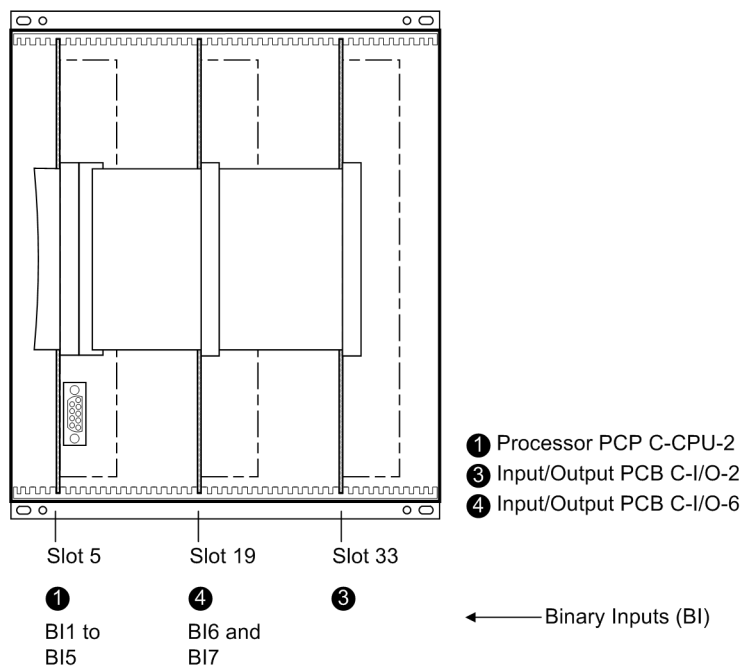
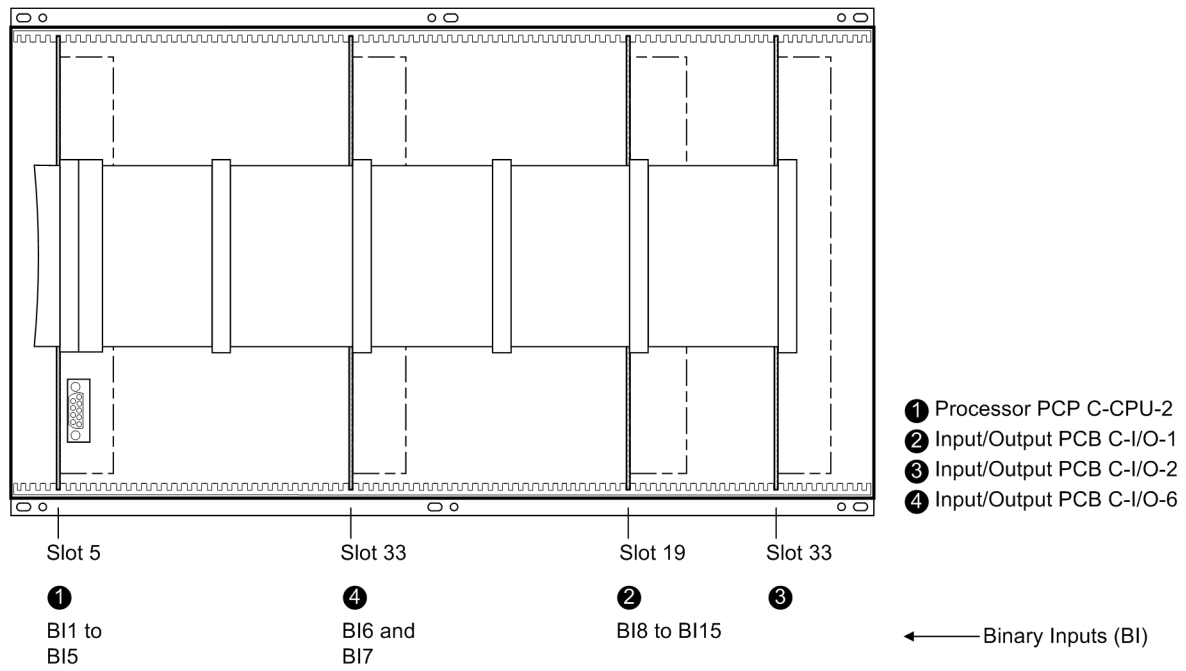
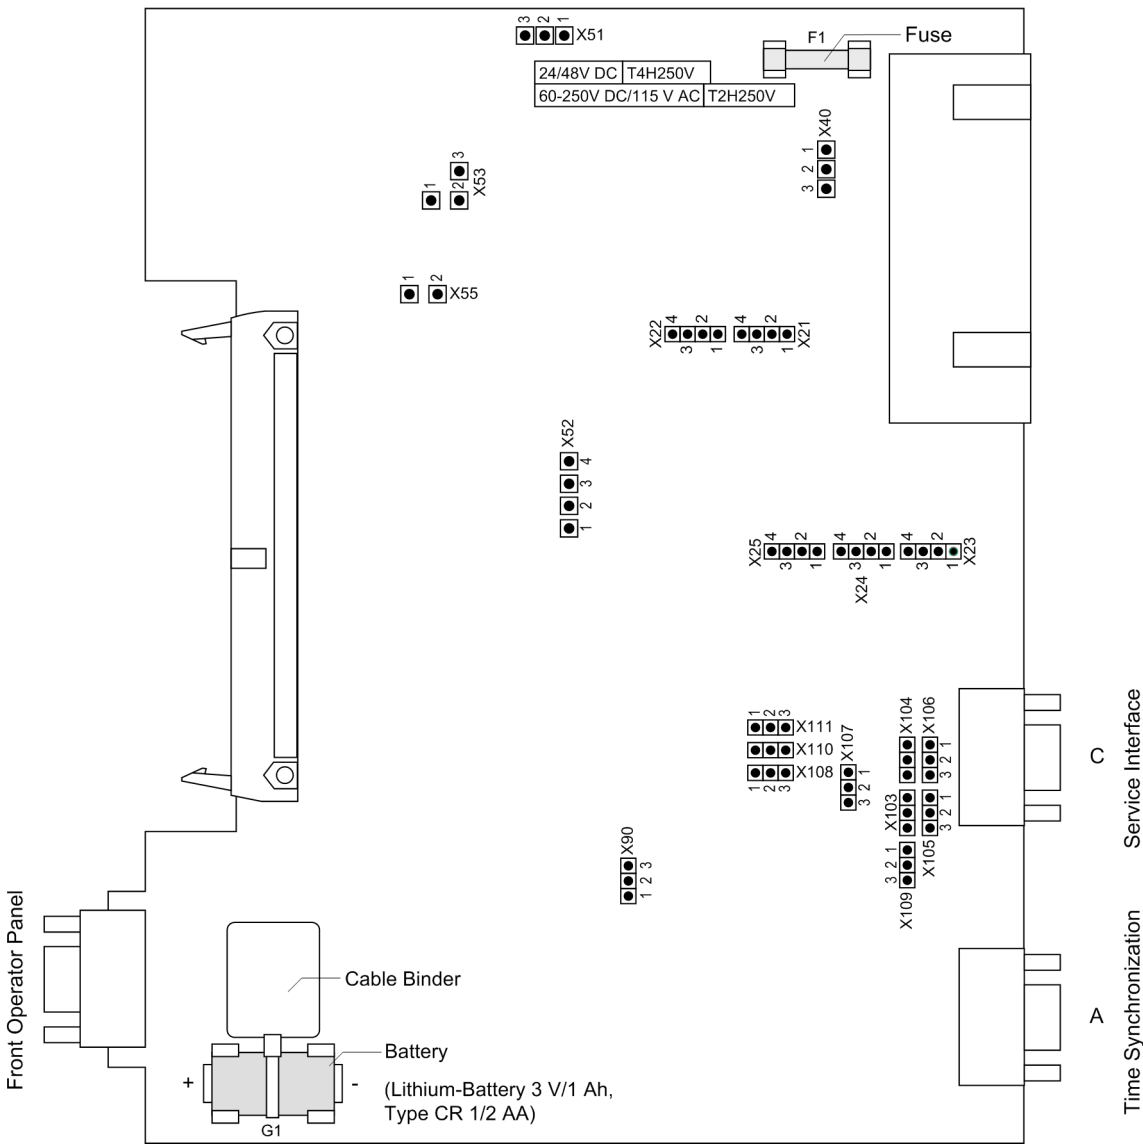

Figure 3-1 Front View of a 7UM621/623 (Housing Size $\frac{1}{2}$) after Removal of the Front Cover (Simplified and Scaled Down)
Figure 3-2 Front view of a 7UM622 (housing size 1/1) after removal of the front cover (simplified and scaled down)
Figure 3-3 Processor Board C-CPU with Jumper Settings Required for the Board Configuration, of the Battery and Miniature Fuse
Spare parts may be the backup battery that maintains the data in the battery-buffered RAM when the voltage supply fails, and the miniature fuse of the internal power supply. Their physical location is shown in Figure 3-3. The ratings of the fuse are printed on the board next to the fuse itself. When replacing the fuse, please observe the guidelines given in the SIPROTEC 4 System Manual /1/ in the chapter „Maintenance“ and „Corrective Action / Repairs“.
- Disconnect the ribbon cable between the front cover and the C-CPU-2 board (No. 1 in Figures 3-1 and 3-2) at the front cover side. To disconnect the cable, push up the top latch of the plug connector and push down the bottom latch of the plug connector. Carefully set aside the front cover.
- Disconnect the ribbon cables between the C-CPU-2 board (1) and the I/O boards (2) to (4), depending on the variant ordered).
- Check the jumpers in accordance with Figures 3-3 to 3-8 and the following information, and as the case may be change or remove them.
The allocation of the boards for housing size $\frac{1}{2}$ is shown in Figure 3-1 and for housing size $\frac{1}{4}$ in Figure 3-2.
Mounting locations of modules are shown in Figures 3-1 to 3-2.